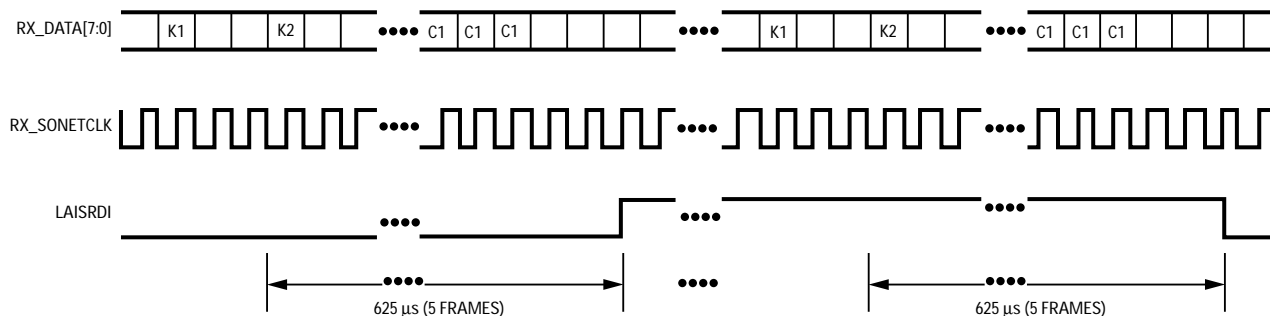

Figure 42. Line AIS and Line RDI Declaration/Removal
The line AIS and line RDI declaration/removal timing diagram (Figure 42) illustrates the operation of the LAIS and RDI outputs. LAIS (RDI) is declared when the binary pattern 111 (110) is observed in bits 6,7, and 8 of the K2 byte for three or five consecutive frames. LAIS (RDI) is removed when any pattern other than the binary pattern 111 (110) is observed in bits 6,7, and 8 of the K2 byte for three or five consecutive frames.